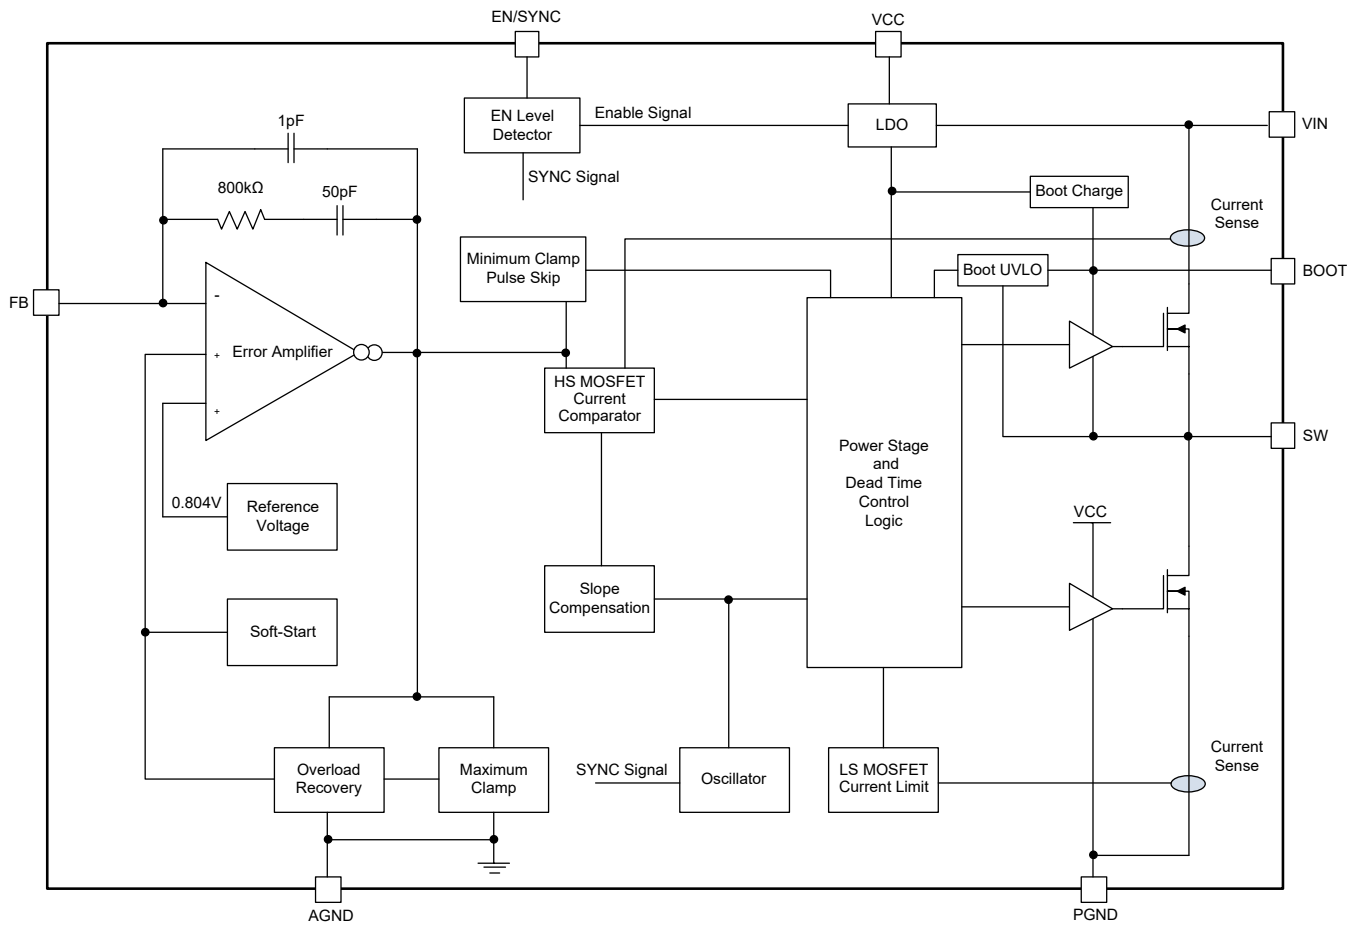
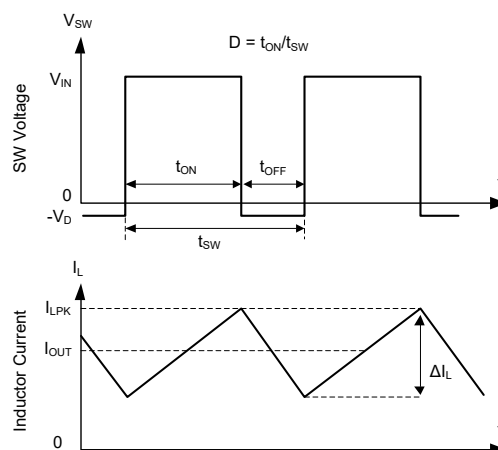
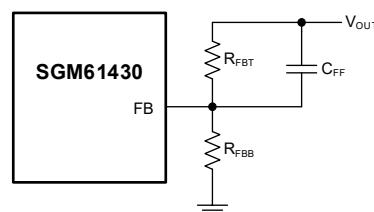

Figure 2. Block Diagram
Figure 3. Converter Switching Waveforms in CCM
Figure 8. Improving Loop Compensation by Feed-Forward Capacitor
The Functional Block Diagram and basic waveforms of these Buck synchronous converters are shown in Figure 2 and Figure 3. The N-MOSFETs are used for high-side (HS) and low-side (LS) (synchronous rectifier) switches. The HS duty cycle ($D = t_{ON}/t_{SW}$) is controlled in closed loop to regulate and maintain the output voltage at a constant level. The switching period is $t_{SW} = 1/f_{SW}$, and the HS on-time is t_{ON} . When HS is turned on, the SW node voltage sharply rises towards V_{IN} , and the inductor current (I_L) starts ramping up with $(V_{IN} - V_{OUT})/L$ slope. When HS is turned off, the LS is turned on after a very short dead time to avoid shoot-through, and I_L ramps down with $-V_{OUT}/L$ slope. When the inductor current is continuous (due to sufficient load), the output voltage is proportional to the input voltage and duty cycle ($V_{OUT} = D \times V_{IN}$) if component parasitics are ignored.
The SGM61430 is internally compensated (see Figure 2) and is stable over the entire f_{SW} and V_{OUT} operating range. However, the phase margin can be low for some ranges of V_{OUT} when low ESR ceramic capacitors are used in the output. In such cases, it is recommended to use a feed-forward capacitor (C_{FF}) in parallel with the R_{FBT} to improve the transient response as shown in Figure 8.
The HS switch over-current protection is natural in peak current mode control. In each cycle the HS current sensing starts a short time (blanking time) after it is turned on. The slope compensation ramp is deducted from the EA (Error Amplifier) output to avoid sub harmonic oscillations and the result is compared to the HS current to determine the HS turn-off time (on-time). See Figure 2 for details. Before comparison, the EA output is clamped to a fixed maximum threshold (I_{HS_LIMIT}) to limit the current. So, the peak current limit of the high-side switch is not affected by the slope compensation and remains constant over the full duty cycle range.
An external resistor divider is used to set the output voltage as shown in Figure 8. Use Equation 12 to set V_{OUT}: